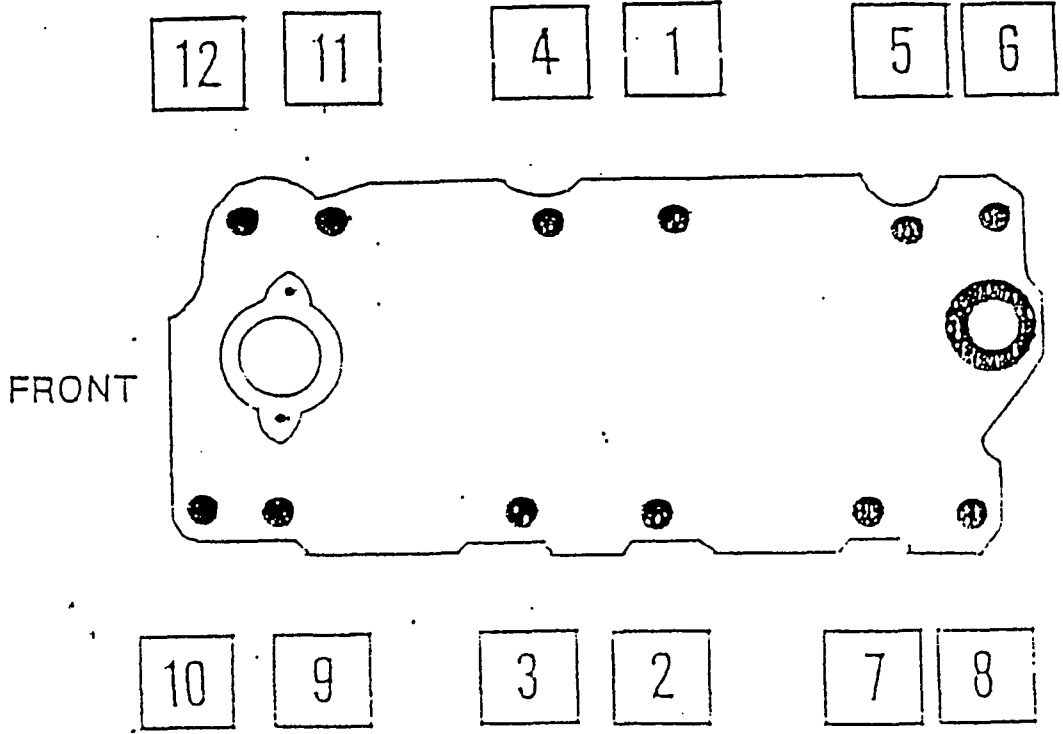

Figure 1 — Intake manifold tightening sequence
- A. Install manifold on engine and begin to replace all connections. See figure 1 for correct manifold bolt tightening sequence. Torque all marked bolts to 25 ft/lbs.